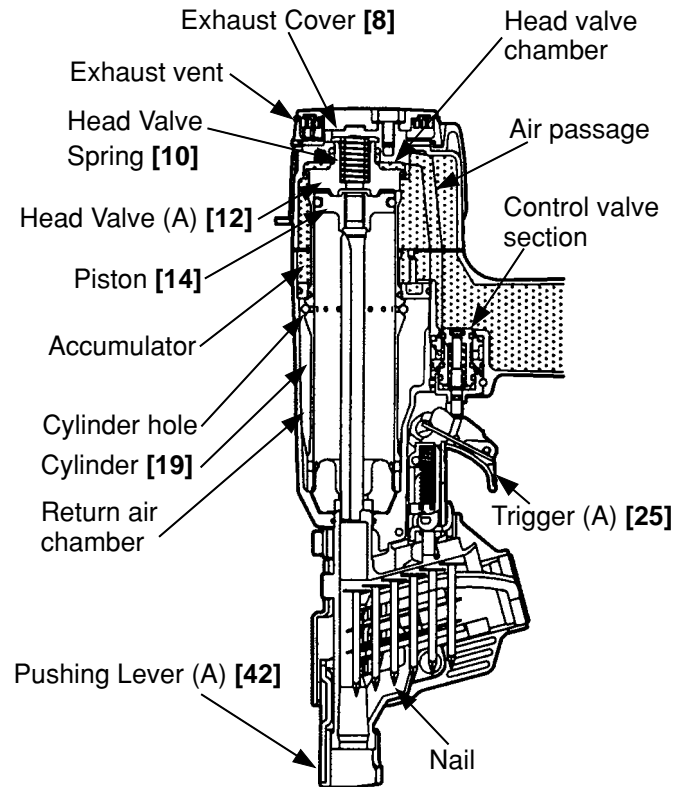

Fig. 5
(1) Before nailing: (Fig. 5 and Fig. 6)
(2) When nailing: (Fig. 5 and Fig. 6)